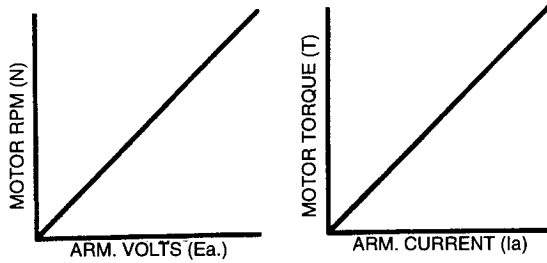

FIGURE 5-2. DC SHUNT-WOUND MOTOR CHARACTERISTICS
The drive provides infinitely adjustable-speed control within its operating range. While the shunt field power for the motor is provided by a constant-voltage supply, adjustable armature voltage is provided by the 3120M Module. The speed (N) of the motor is directly proportional to armature voltage, and the torque (T) is directly proportional to armature current. These two quantities are independent, as shown in Figure 5-2, page 5-2.